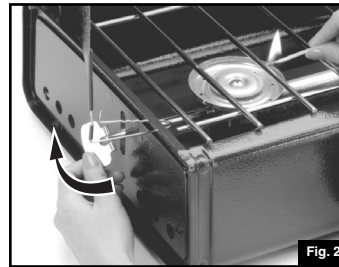

Fig. 20
- Hold lit match at edge of AUXILIARY BURNER and open the AUXILIARY VALVE. (Fig. 20)